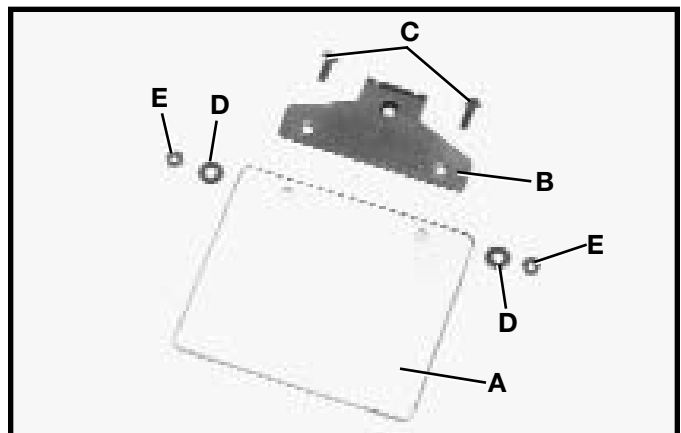

Fig. 6
1. Place shield (A) Fig. 6, under the lip of frame (B). Line up the two holes in the shield with the two holes in the frame and fasten together using two #10-24x1/2" round head screws (C), 3/16" flat washers (D), and #10-24 hex nuts (E). Assemble the other shield in the same manner.